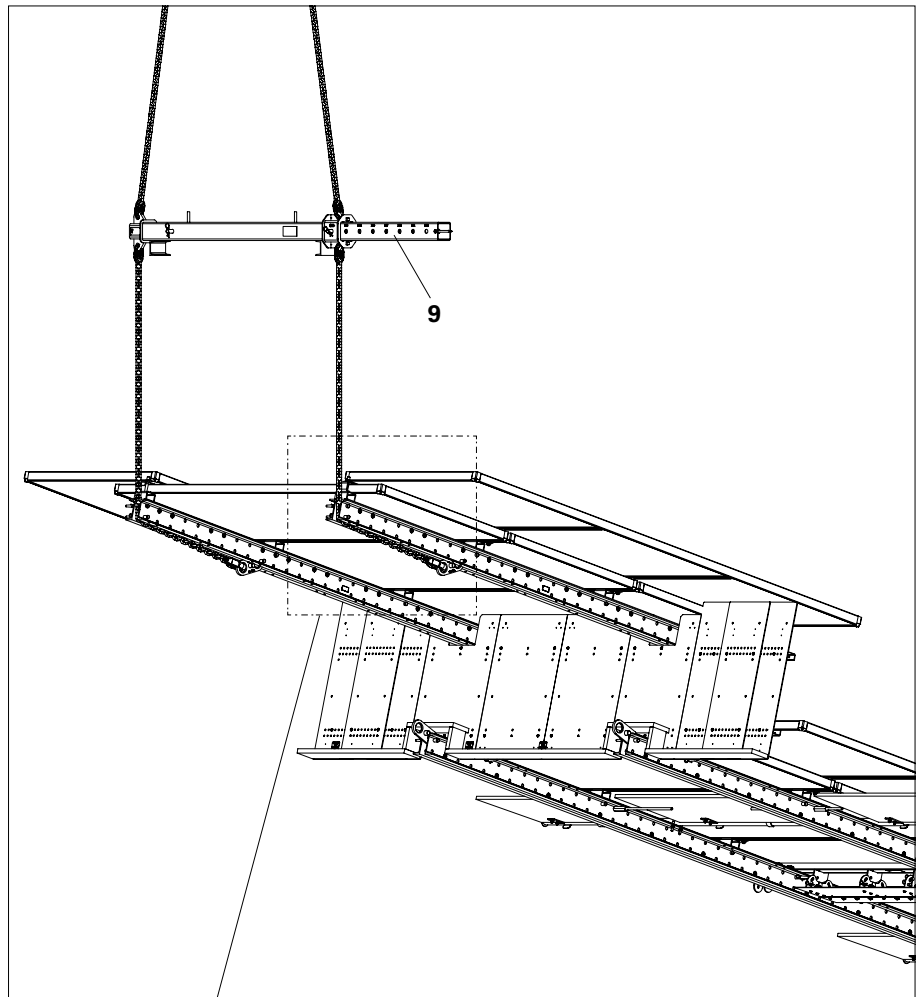

Fig. C3.02
3. Adjust Lifting Beam 9 t (9) to suit the climbing rail spacings.
6. Align and lift the climbing unit. (Fig. C3.02 + C3.02a)